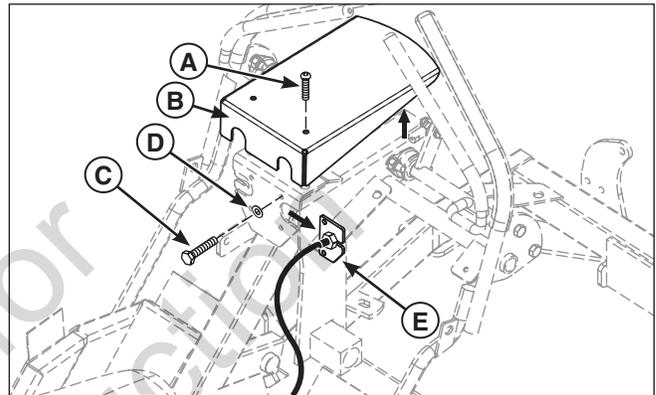
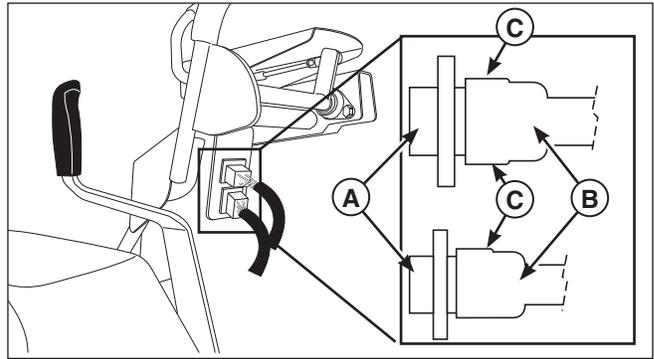

Figure 59. Motion Control Cables
Figure 61. Wire Harness
- Loosen and remove the two (2) allen head bolts (**A, Figure 59**) that secure the top motion control guard (**B**) to the unit. Remove the top motion control guard from the unit.
8. Locate the wire harness disconnect points under the right instrument control panel. Disconnect the wire harnesses by squeezing the quick release tabs and pulling the main unit wire harness connector (B, Figure 61) from the instrument panel wire harness connector (A).
5. Install the cable plates (**E**, **Figure 59**) to the operator compartment and secure using the four (4) 1/4 bolts (**C**) and washers (**D**).
6. Install the top motion control guard (**B**) onto the unit and secure in place using the two (2) allen head bolts (**A**).
7. Connect the wire harness by pushing the instrument panel wire harness connector (**A**, **Figure 61**) into the main unit wire harness connector (**B**).